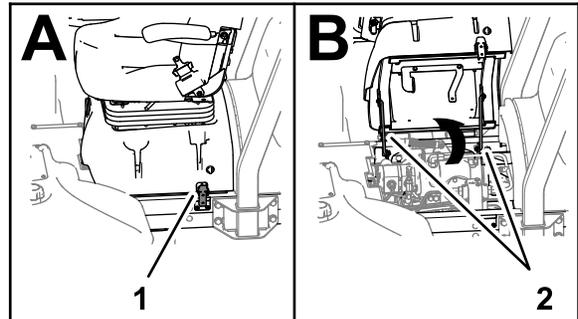

Figure 4
Always separate the power-disconnect connectors before working on the cutting units (Figure 4).
1. Unlatch the seat base, tilt the seat and base open, and support it with the prop rods (Figure 4).